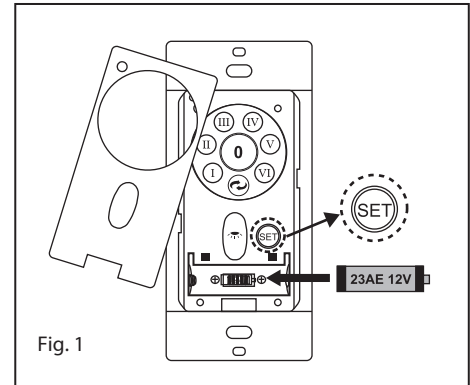

Fig. 1
- 1 Remove ball from downrod by loosening set screw in the side of the ball. Slide ball down and remove ball pin; remove ball. (Fig. 1)
1 Insert the receiver into the ceiling mounting bracket with the flat side of the receiver facing the ceiling. (Fig. 1) For best performance, make sure the Black Antenna, on the end of the receiver, remains extended and not tangled with any of the electrical wires.
- 1 Remove the existing wall plate and the old switch from the wall outlet box. (Fig. 1)
Follow the below steps to use the set button. (Fig. 1)